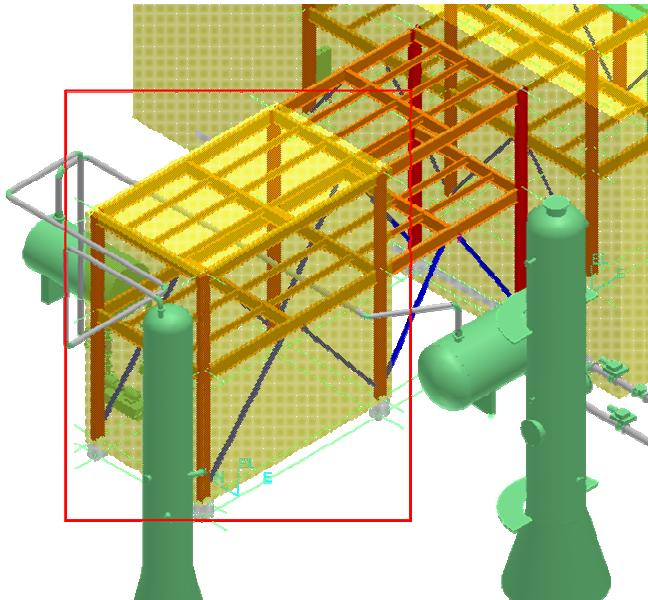

Figure 27: Final Output – After Placing the Volume
5. After you have created the area for the volume, click the **Finish** button on the ribbon. The created volume is highlighted in Figure 27.